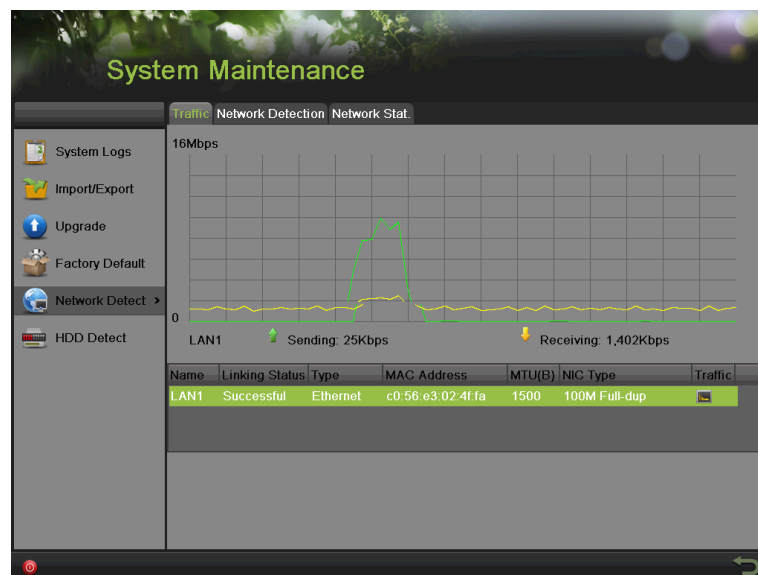

Figure 173 Traffic Detection
2. Select the Traffic tab and you can view the sending rate and receiving rate information on the interface, as shown in Figure 173. The traffic data is refreshed every 1 second.